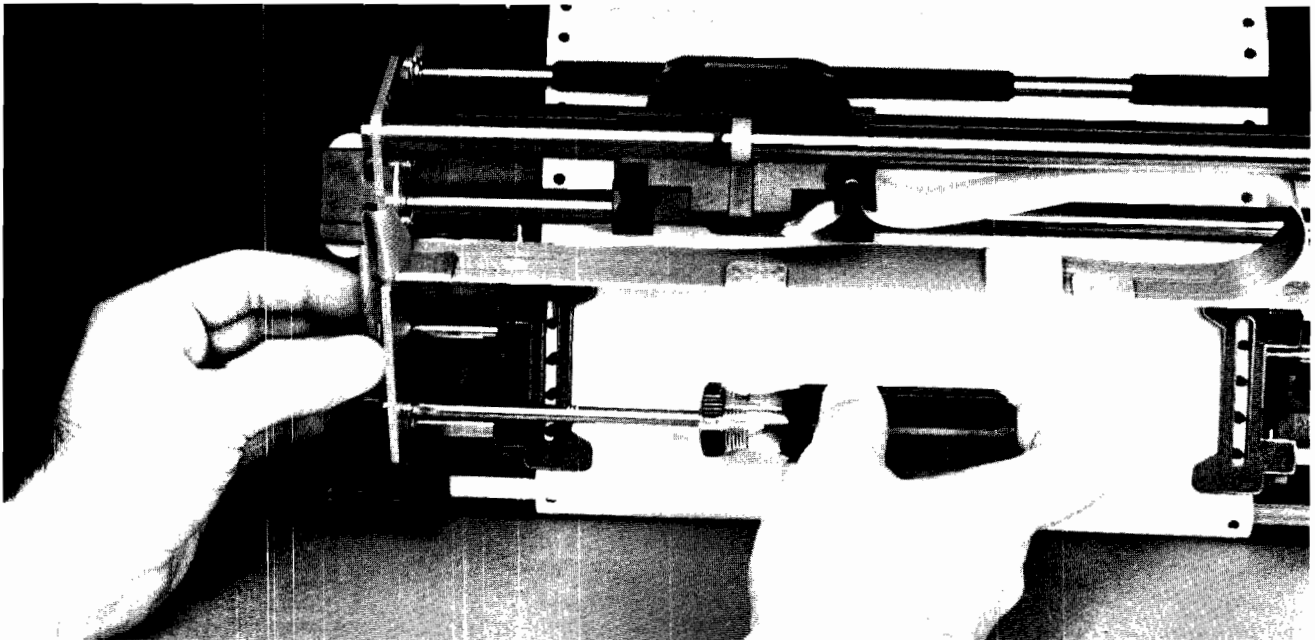

Figure 5-1. Thermal Compensator Adjustment.
1. Loosen the screw holding the thermal compensator (see Figure 5-1).